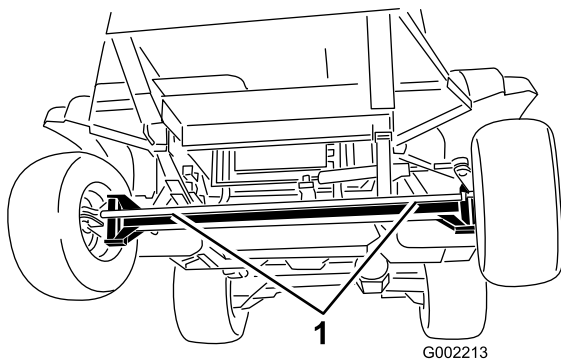
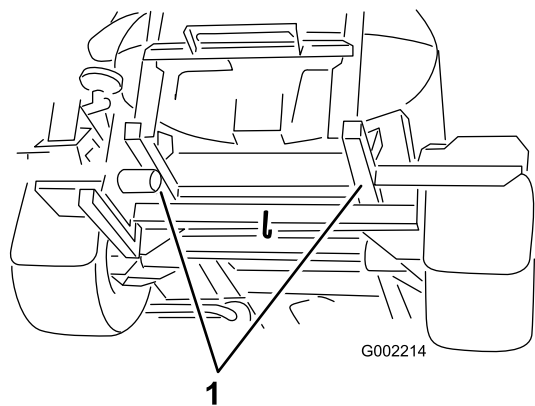

Figure 30
Figure 31
2. Affix a tow line to the frame. Refer to the front and rear towing points in Figure 30 and Figure 31.